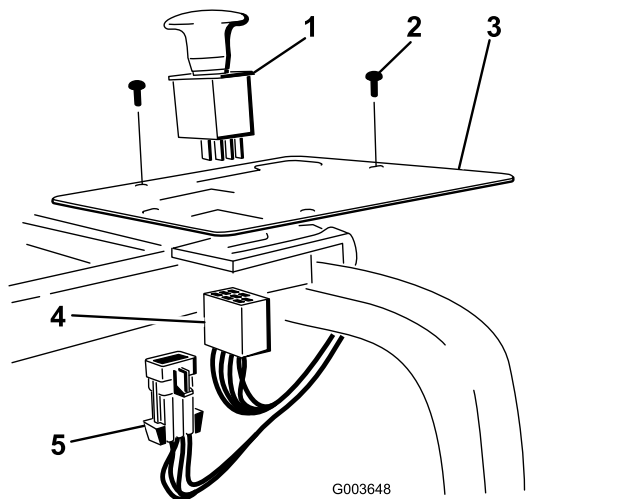

Figure 35
2. Remove the plastic plug from the panel and install the switch to the panel (Figure 35).
4. Install the harness to the switch in the control panel (Figure 35).
6. Install the main harness connector to the main harness (Figure 35).